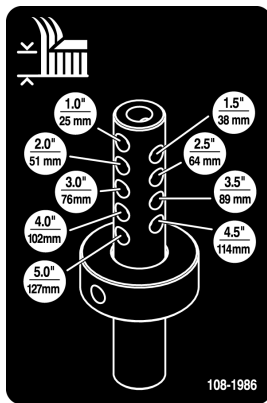

Figure 13
- Align the height-of-cut collar to the desired height-of-cut holes on the height of cut rod (Fig. 13).